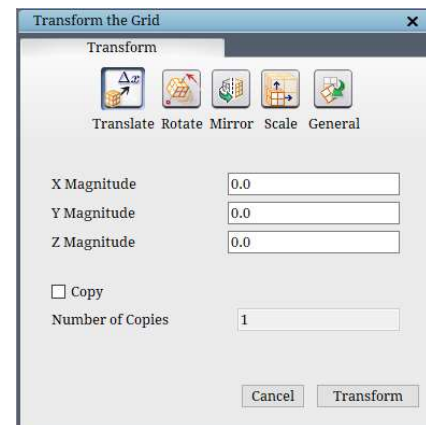

Figure 5.34: Translate dialog box
**Translate** button helps in translating the grid linearly along any XYZ direction. Clicking on the Translate button opens the dialog box, as shown in Figure 5.34. By default, it just translates the grid in the UI visually. Once the grid is translated to the desired location, it must be explicitly saved using **Save→Grid→Elementary Grid**. It can also be copied by checking the **Copy** checkbox. Enabling the copy check box enables the **Number of Copies** input box. The existing grid is copied and translated based on the given